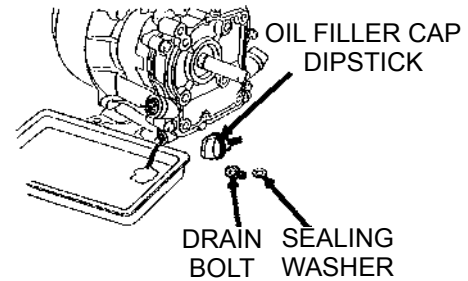

Figure 29. Engine Oil (Draining)
- Drain the engine oil when the oil is warm as shown in Figure 29.